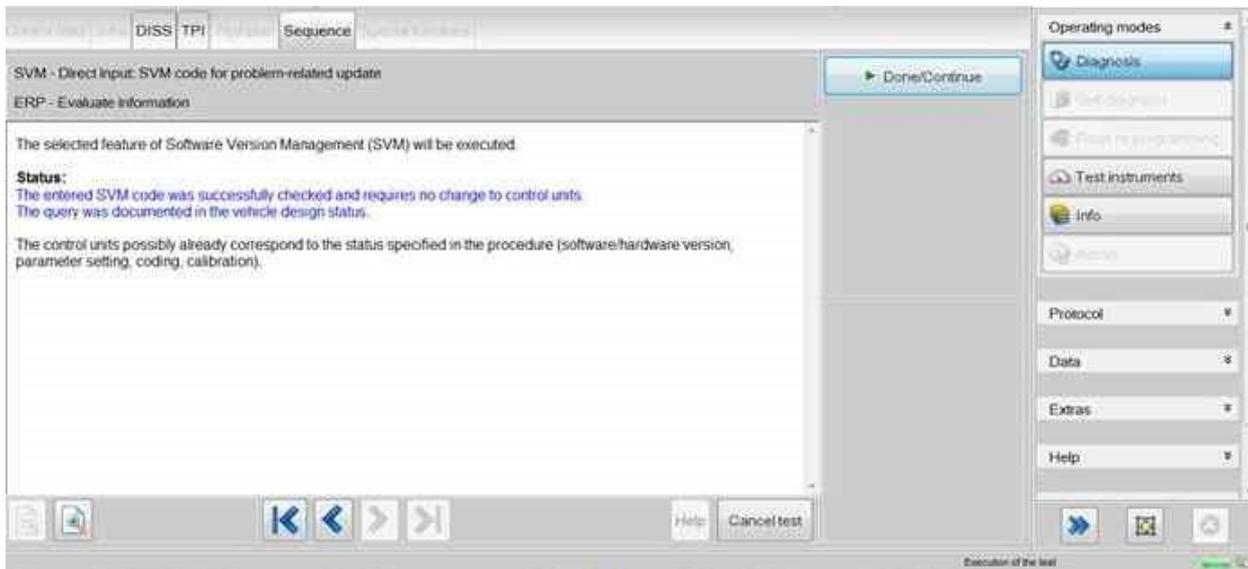

Figure 16
24. Once complete a summary screen will appear (Figure 16), this confirms successful completion - Follow any on screen prompts until program end